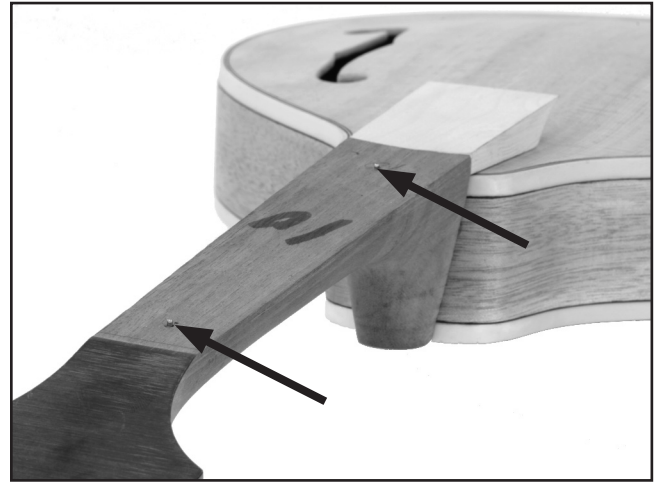

Figure 10. Alignment pins.
4. Nail the brads into the positioning holes and use wire cutters to cut the heads off no more than an $\frac{1}{8}$ " above the surface of the neck as shown in **Figure 10**.